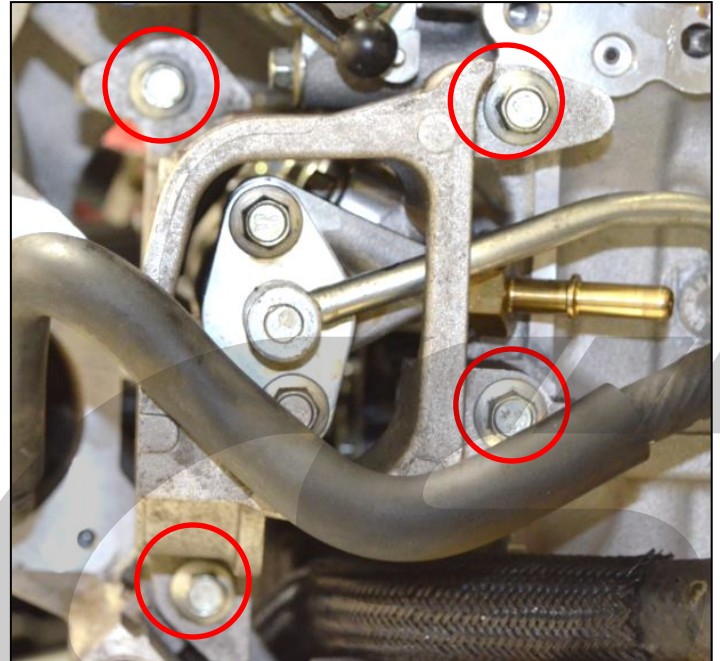

Figure 5a
- a) Remove the fuel rail shield with a 10mm socket wrench, shown with red circles in Figure 5a.